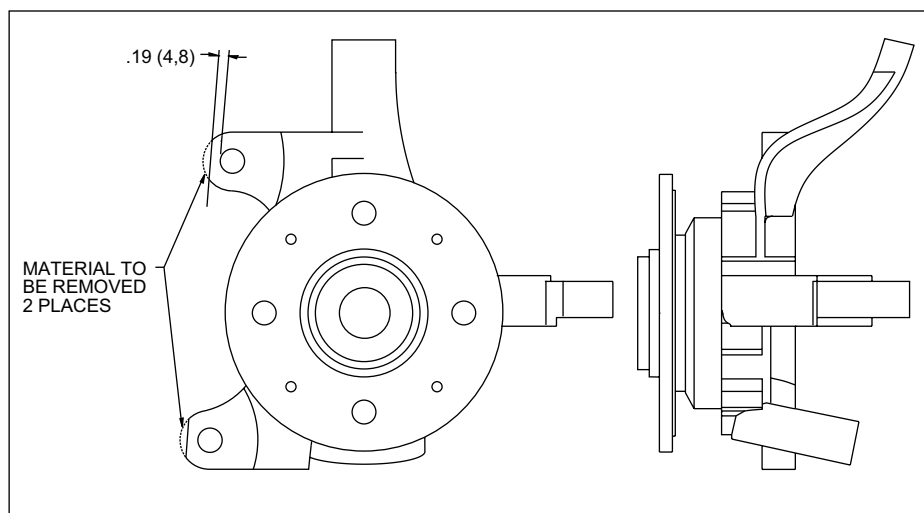

Figure 1. Spindle Modifications
- Before any tear-down or disassembly begins, modifications are required to the stock spindle. This includes removing some material from the stock spindle caliper mounting area that will interfere with the assembly of the Wilwood disc brake kit. It is recommended that these modifications be performed by a qualified machine shop. Please refer to the modification procedure and Figure 1 below.
• These modifications should be performed by a qualified machinist. Refer to Figure 1, right. Only one view of the spindle is shown, but the modifications need to be performed on both spindles.